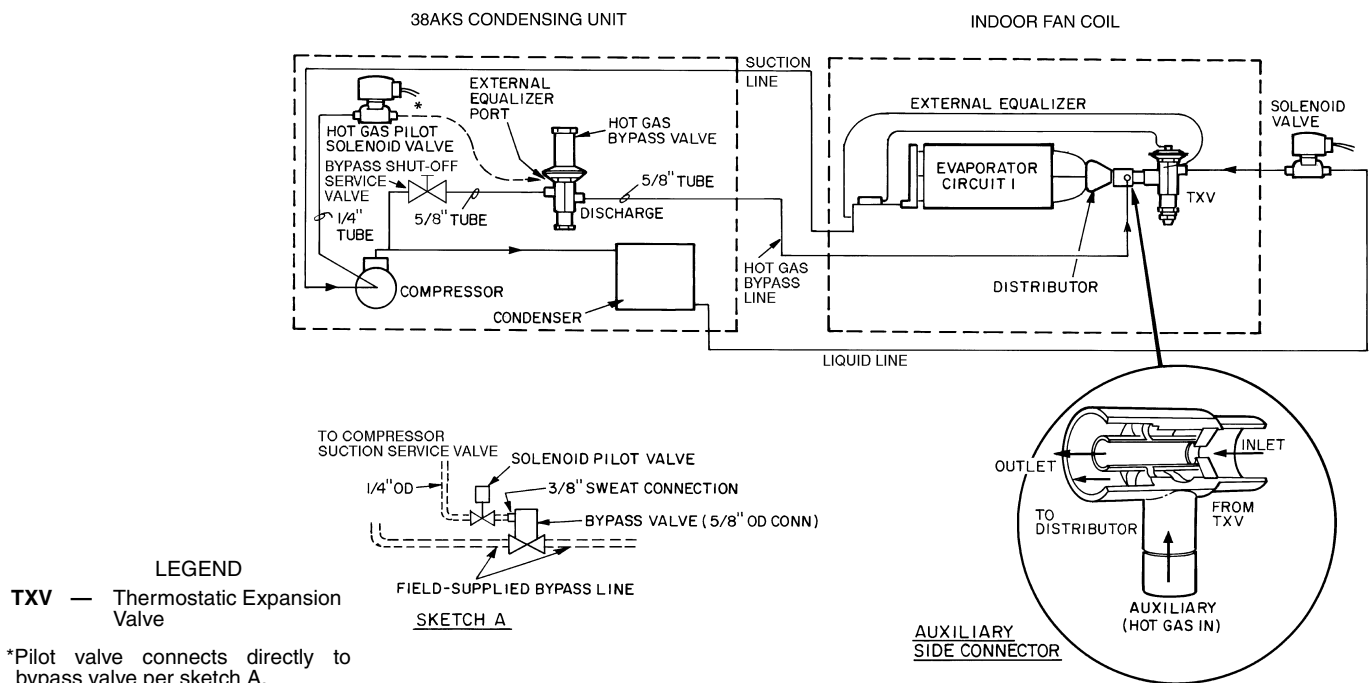

Fig. 4 — 38AKS Hot Gas Bypass Piping
Step 1 — Install Piping (See Fig. 4)